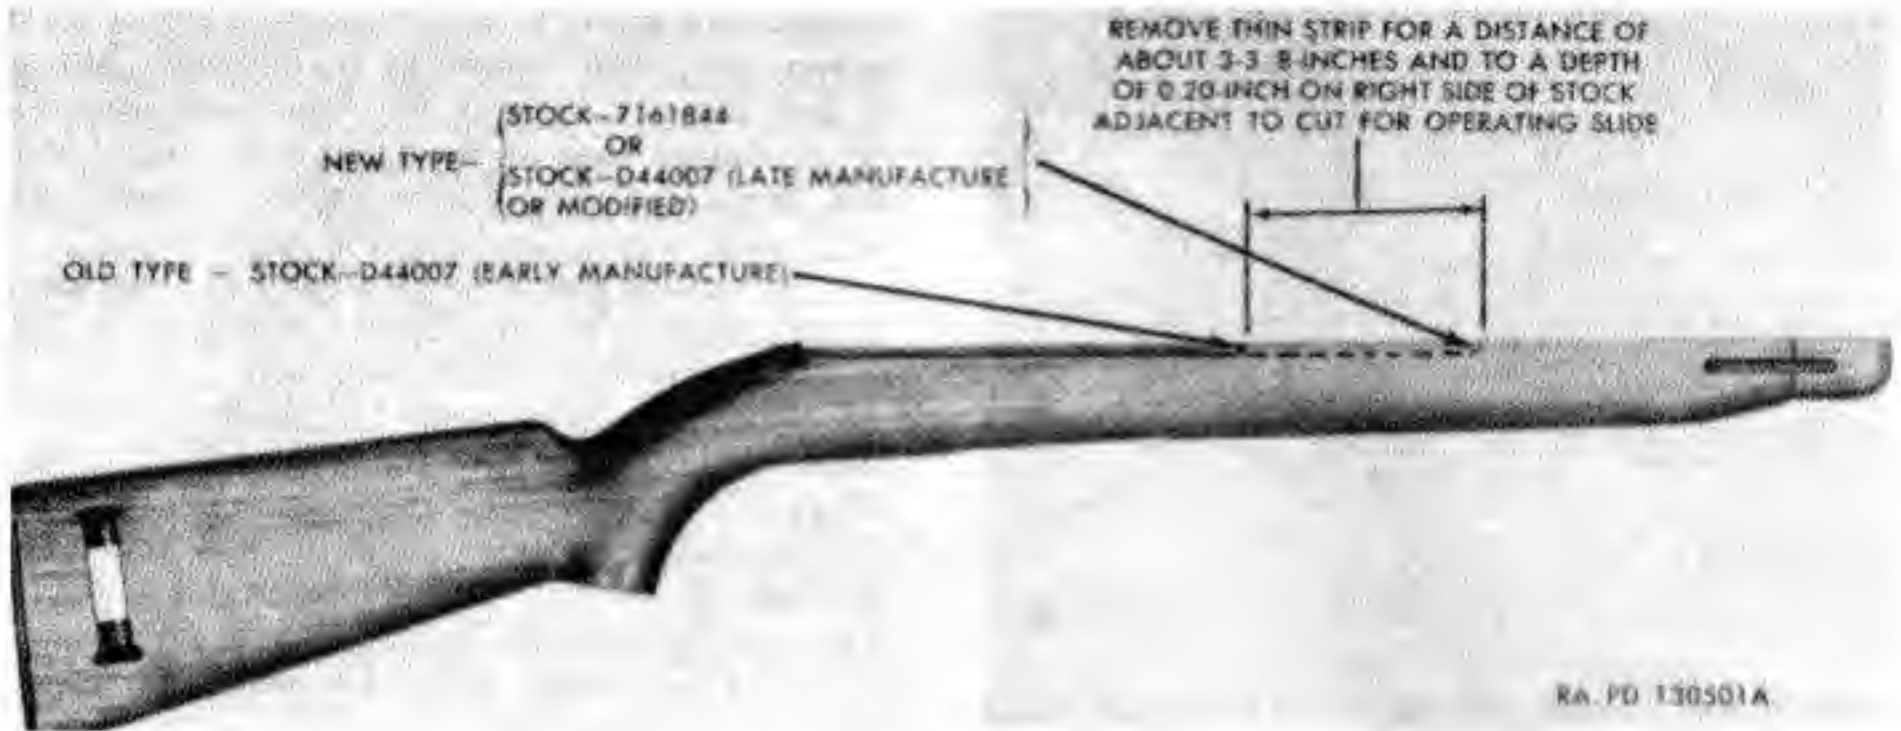

Figure 103. Modification of stock D44007 of early manufacture (carbine M1).
e. Stock Modification. Carbine M1 stocks of stock assemblies C57157 of early manufacture were made with a thin section on the right side where the operating slide bar passes to the right side of the receiver. This thin strip should be removed in order to prevent cracks from starting in this area. The stock should be cut down as shown in figure 103.